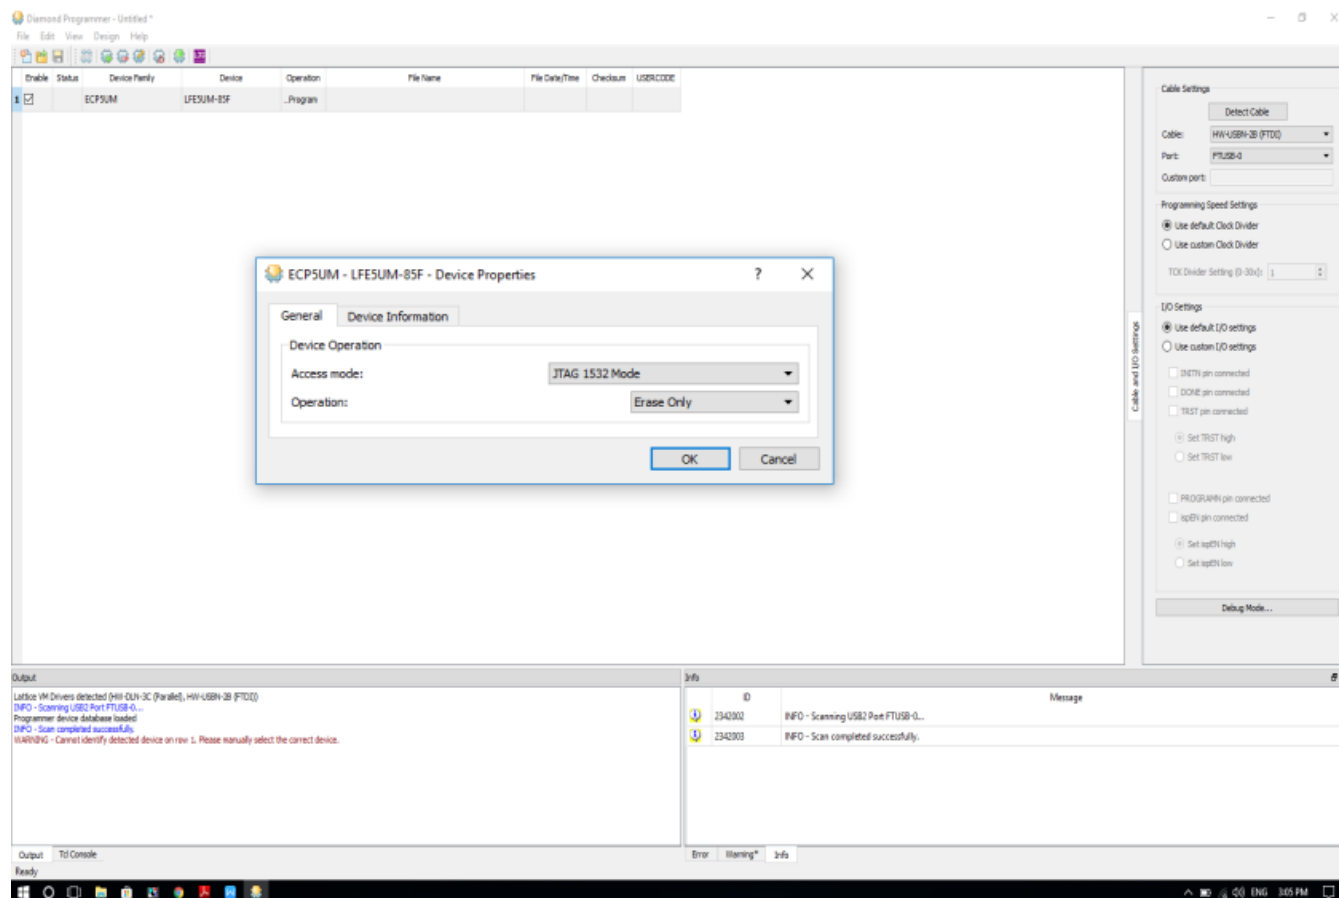

Figure 25. Select JTAG Option and Bit File
- Click the Operation tab, and select the Access mode options as JTAG 1532 mode; and for Operation select “Erase Only” for the Erase bit file in the FPGA, as shown in Figure 25.